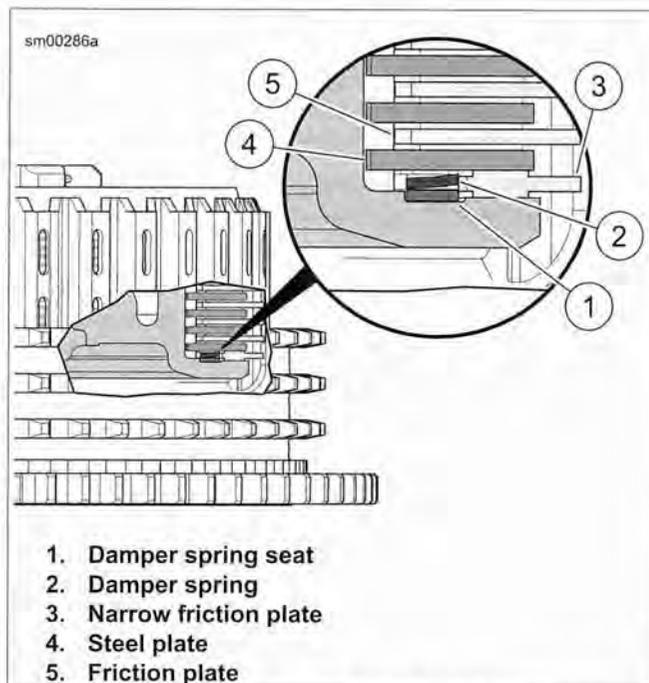

Figure 5-33. Clutch Pack Stack-Up
3. See Figure 5-33. Install damper spring seat (1) on clutch hub so that it seats inboard of narrow friction plate (3).
4. Install damper spring (2) on clutch hub with the concave side up (facing opposite damper spring seat).
5. Install a steel plate (4) and then a friction plate (5) on the clutch hub. Install six remaining sets in the same manner, alternating between steel plates and friction plates.